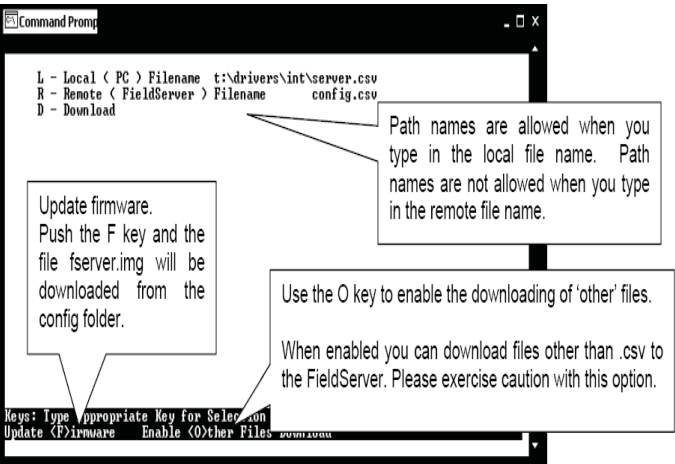

Figure 16: Download new Config.csv file
12.) At the next screen, (Figure 16), type <D> again.